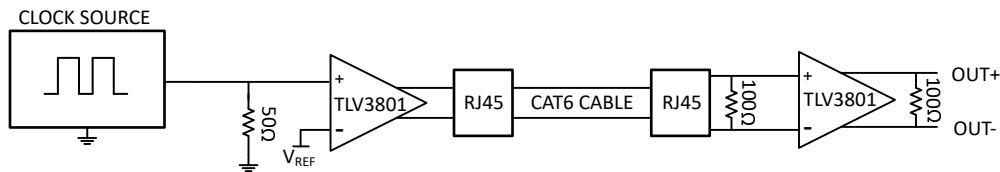

Figure 8-5. LVDS Clock Transceiver
The Figure 8-5 shows a logic clock source being terminated and driven with the TLV3801/TLV3811(C) across a CAT6 Cable to receive an equivalent LVDS clock signal at the receiver end.